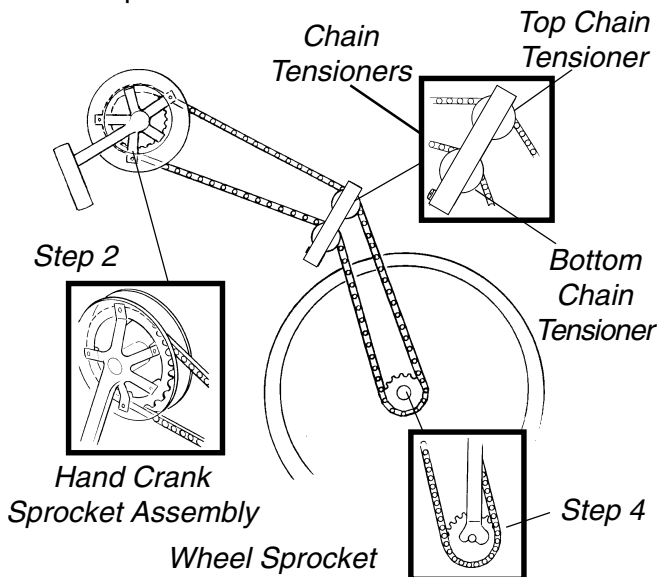

FIGURE 1 - EXCELERATOR / LI'L EXCELERATOR /CHAIN INSTALLATION W/SEVEN (7) SPEED HUB
EXCELERATOR/ LI'L EXCELERATOR /CHAIN INSTALLATION W/SEVEN (7) SPEED HUB (FIGURE 1)